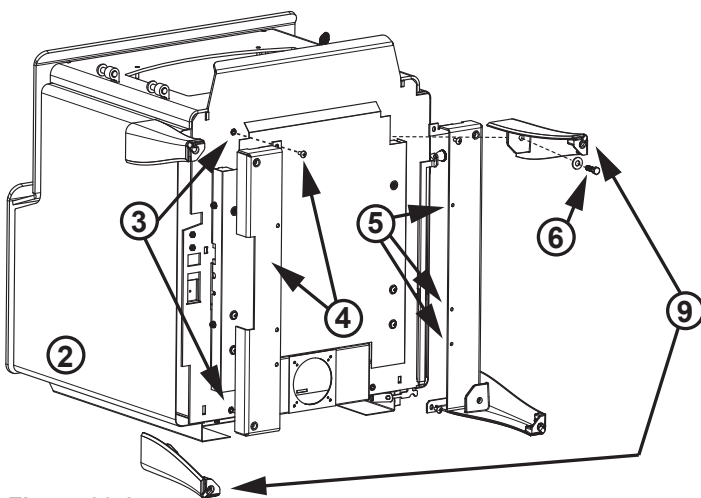

Figure 22.1
2. Slide pedestal over adapter on bottom of appliance and secure with bolts from heat shield (**Figure 22.1 on page 22**).
3. Remove four screws from bottom of appliance (**Figure 22.1**).
**NOTE:** There is a right and a left of the leg brackets (**Figure 22.1**).
5. Install six screws to the bottom of the leg brackets (**Figure 22.1**).
**NOTE:** Legs with leveling bolts need to be on opposite sides of the appliance - one in the front and one in the back (**Figure 22.1**)